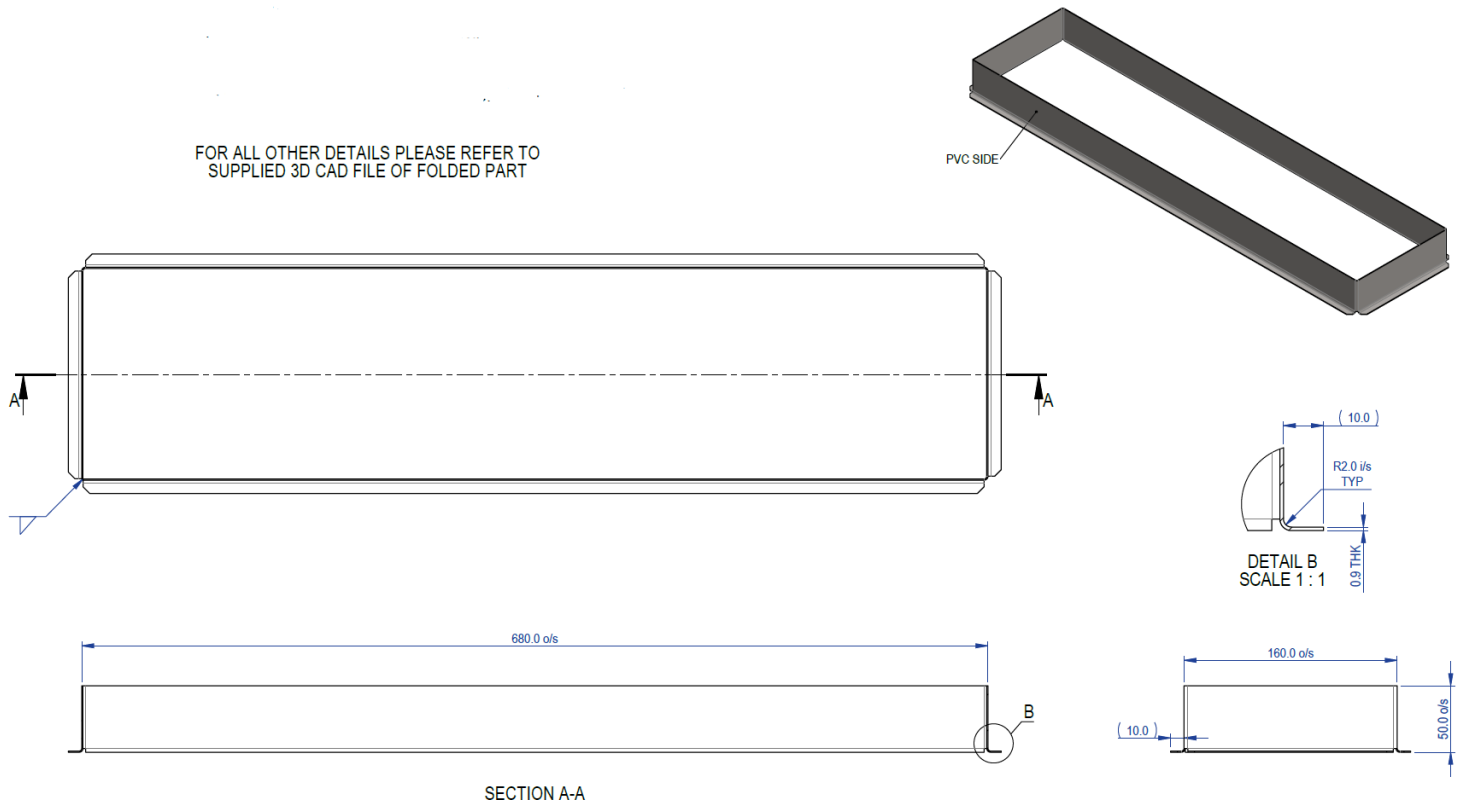
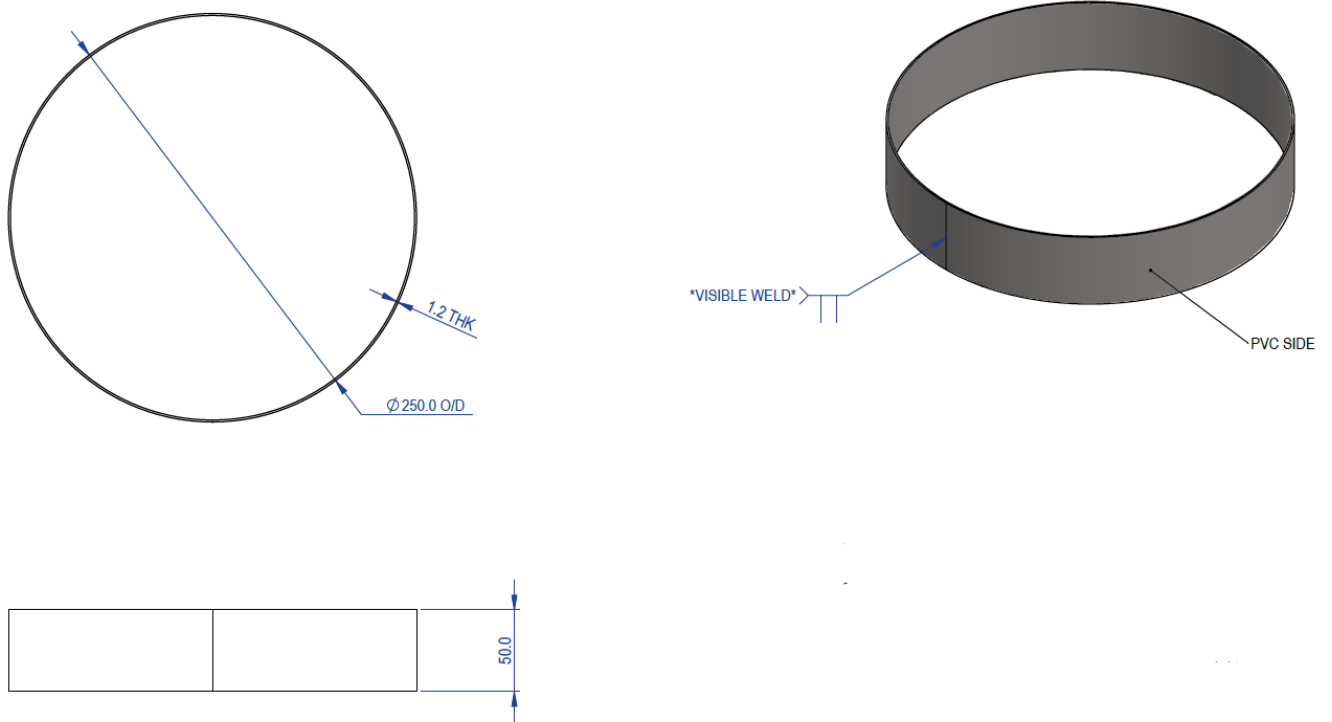

Figure 9 Exhaust spigot
Figure 10 Supply air spigot
5.1.3 Details of standard hood connection spigots are shown in Figure 9 and Figure 10